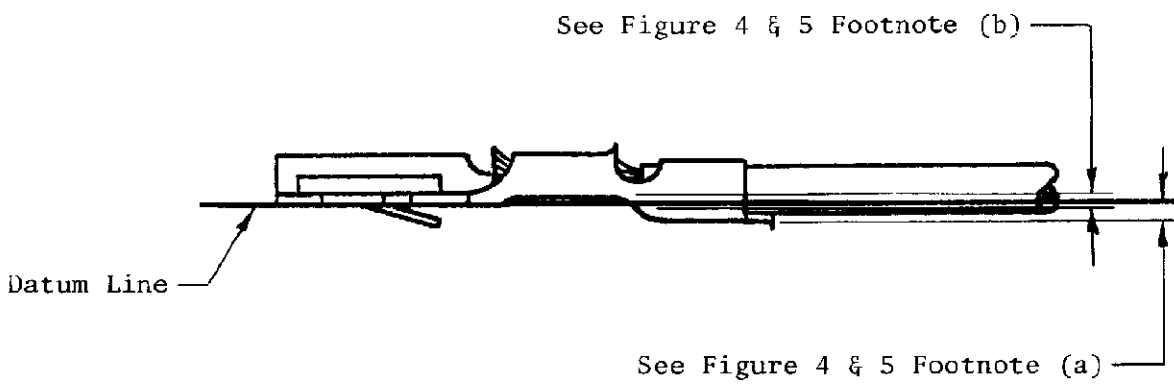

Figure 2
- (1) The contact, including the cutoff tab and burr shall not be bent above or below the datum line more than the amount shown in Figure 2.
(a) The lowest point of the insulation barrel, less cutoff tab and burr, shall be .015 - .042 in below the datum line shown in Figure 2.
(b) The lowest point of the insulation barrel, less cutoff tab and burr, shall be .012 max above and .015 below the datum line shown in Figure 2.
- (a) The lowest point of the insulation barrel, less cutoff tab and burr, shall be .015 - .042 in below the datum line shown in Figure 2.
- (b) The lowest point of the insulation barrel, less cutoff tab and burr, shall be .012 max above and .015 below the datum line shown in Figure 2.